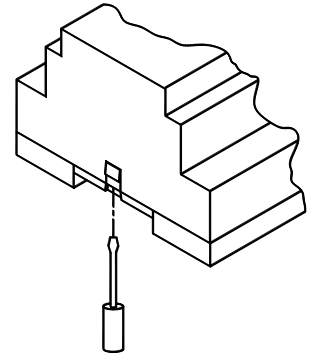

Figure 3
2. Open the enclosure by inserting a flat blade screwdriver under the retaining tabs in the base. See Figure 3
1. Open the enclosure by inserting a flat blade screwdriver under the retaining tabs in the base. See Figure 3